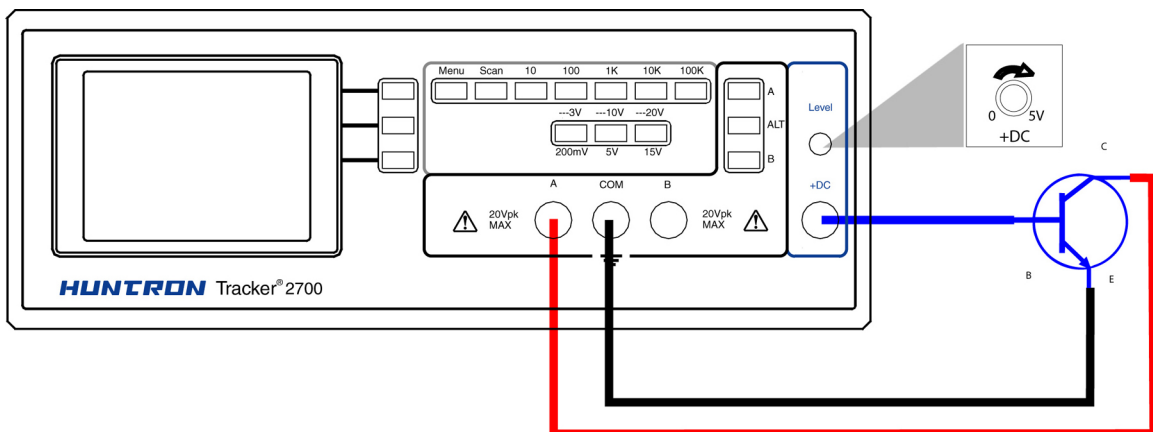

Figure 6-3 Testing a transistor with a DC Voltage Source (Tracker 2700 shown)
Trackers with a DC Voltage Source or Pulse Generator can be used to assist in testing transistor operation. Functioning as a basic curve tracer, voltage is applied to the base of the device while monitoring the collector-emitter signature shown on the Tracker display. The constant current signature produced is similar to those produced by a transistor curve tracer except that only one curve is shown instead of a family of curves. This technique can be useful in for testing function and matching transistor gain. Figure 6-3 shows the test circuit for a NPN transistor using the DC voltage source to drive the base.
1. Setup the test circuit as shown in figure 6-3 connecting the DC voltage source or Pulse Generator to the base of Q2, channel A to the emitter and common to the collector.